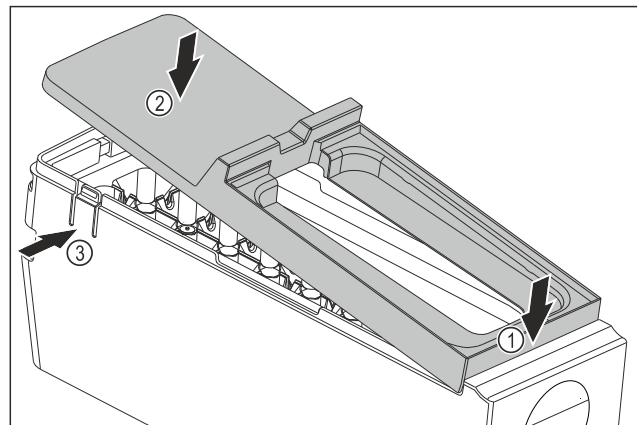

Fig. 71
- ▶ Installing the EasyTwist-Ice body cover: Place the cover on the front. Fig. 71 (1)
- ▶ Lower the cover at the rear. Fig. 71 (2)
- ▷ The cover locks into both tabs Fig. 71 (3) audibly.